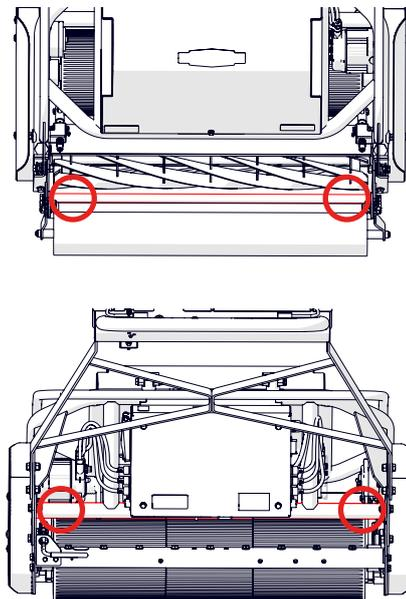

Fig. 21 - Anchor points for transport.
- Anchor the machine to the floor/pallet using suitably rated tie-down straps. Anchor points shown in Fig. 21.